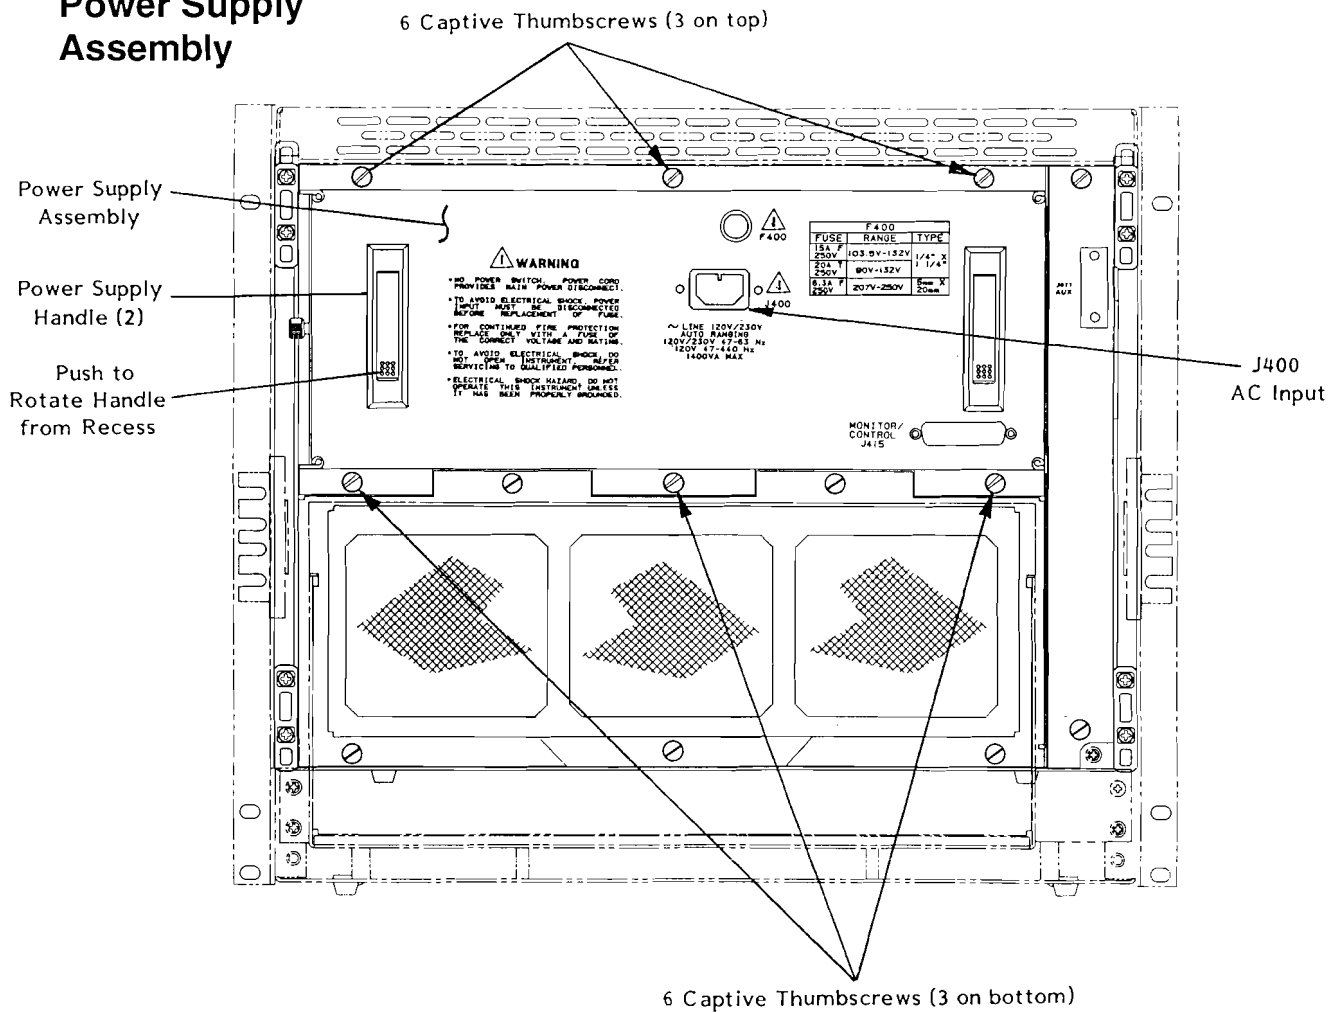

Figure 5-5 Power Supply Rear View
To remove and install the power supply assembly from the mainframe. Refer to **Figure 5-5** and perform the steps below.
2. Loosen the six captive thumbscrews which secure the power supply to the mainframe. See **Figure 5-5** for locations of these six thumbscrews. Ensure that the threads of the six thumbscrews are disengaged from the captive perm nut on the mainframe.